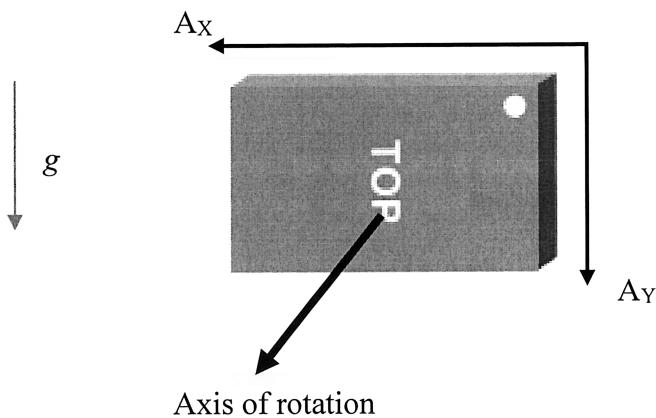

Figure 2: Dual axes accelerometer orient in the gravity plane
- (a) The accelerometer is intended to be used in a way where both its sensing axes A_x and A_y are in the gravity plane, as shown in Figure 2. Determine the tilt angle sensing resolution (i.e. the smallest detectable change in tilt angle) of A_x and A_y at this configuration. (10 marks)
- (b) The accelerometer is rotated by $+45^\circ$ about the axis of rotation from the position shown in Figure 2. Repeat the calculation of tilt angle sensing resolution of A_x and A_y at this configuration. (8 marks)